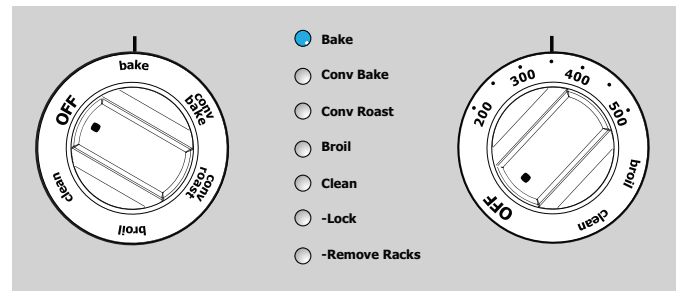

Figure 18: Selecting the bake function
2. Turn the function dial to **bake**. The Bake indicator light will flash (Figure 18).